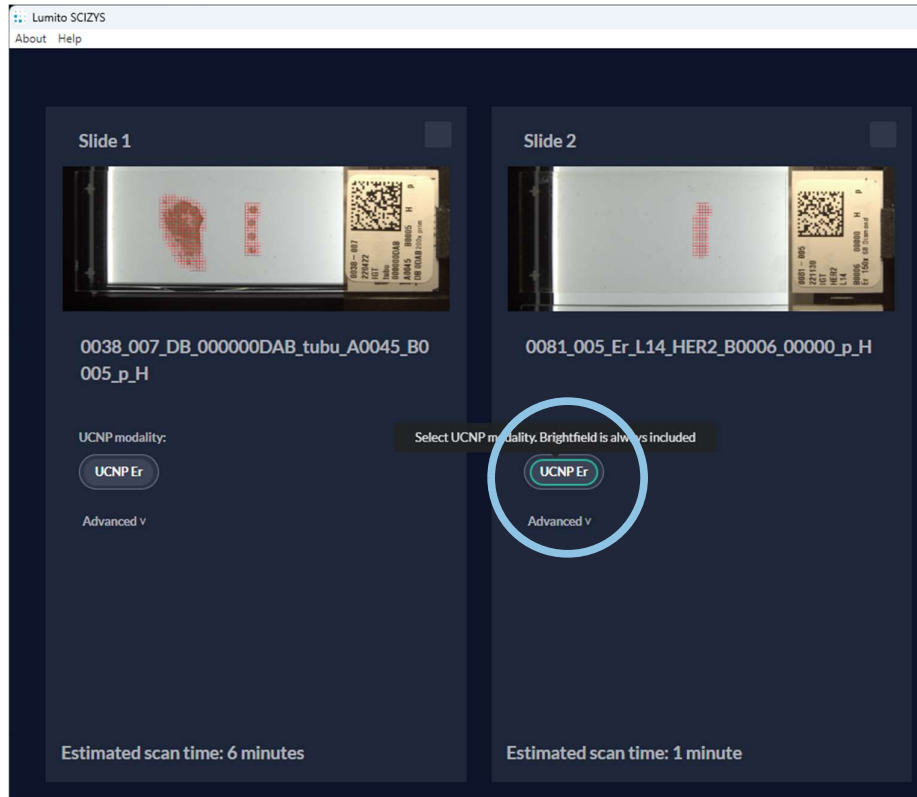
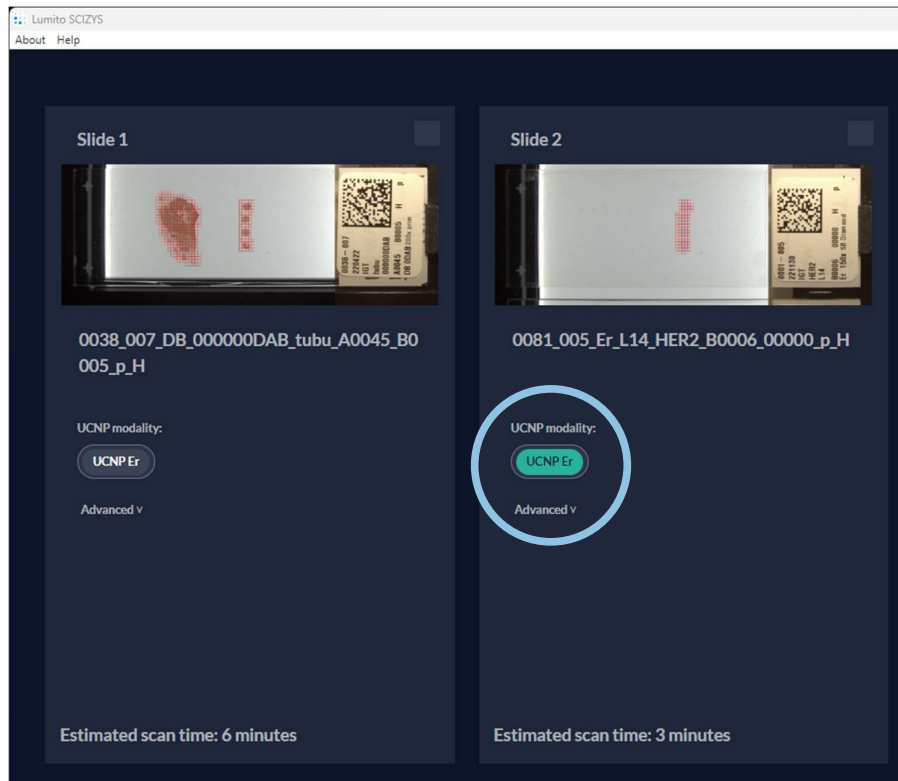

Figure 6-13 Modality “Brightfield and UCNP” (UCNP Er) not chosen.
Figure 6-14 Modality “Brightfield and UCNP” (UCNP Er) chosen, indicated by the UCNP Er button turning green.
1. Click the **UCNP Er** button to select UCNP modality (*Figure 6-14*). Brightfield modality is always included (*Figure 6-13*).